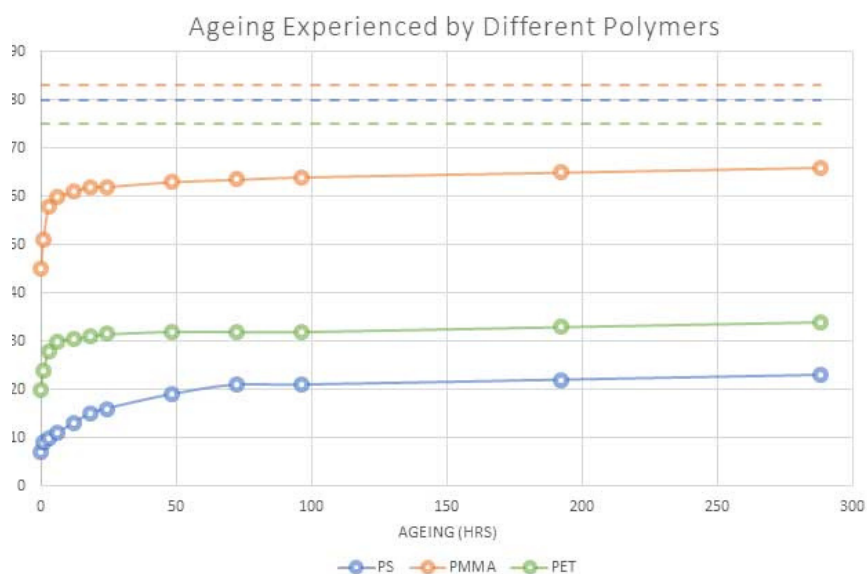

Fig 2: Water contact angle(°) of 3 different polymers after undergoing the same plasma treatment.
Figure 2 demonstrates the differences between three different polymers after undergoing the same plasma treatment and being stored under the same conditions. It can be seen that, not only is the rate of recovery different, but some polymers are treated much more effectively than others, with polystyrene (PS) remaining in a high state of activation even after several weeks.